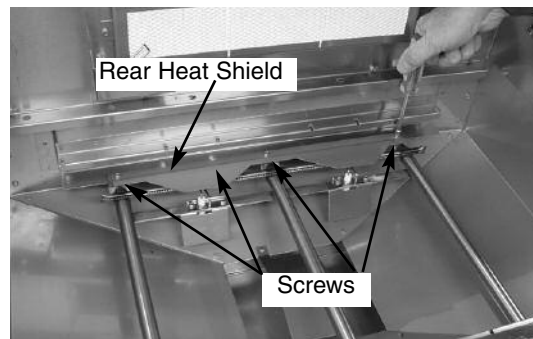

Fig 3
3. Remove the screws holding the rear heat shield in place. Lift out rear heat shield and set aside. (See Fig. 3)